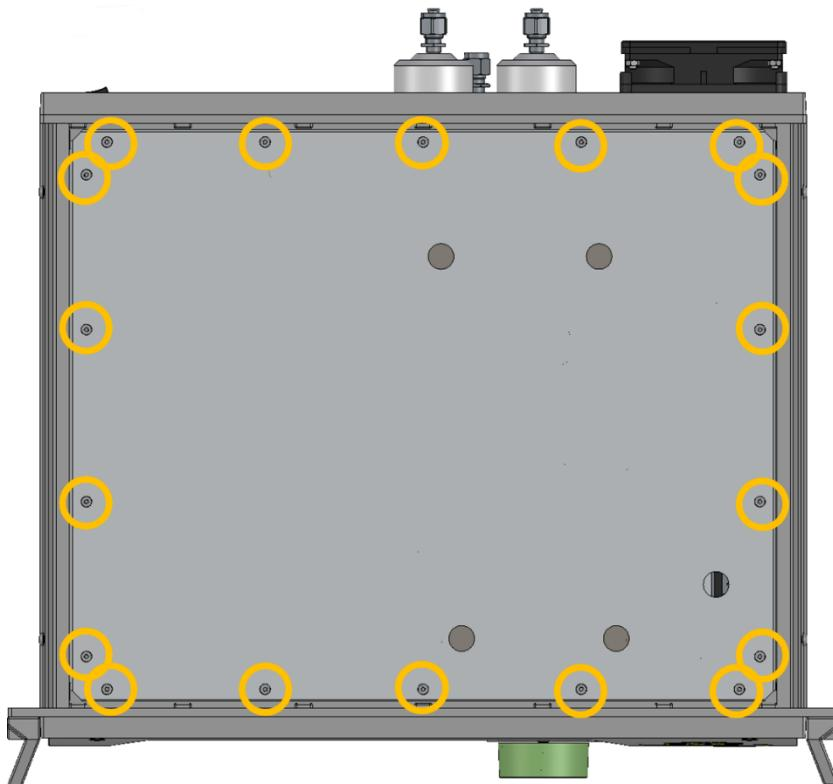

Figure 28. Location of screws of ESD plate.
- Unscrew 18 pcs of M3x5 screws of the ESD plate and lift the plate. See Figure 28 for locating screws.